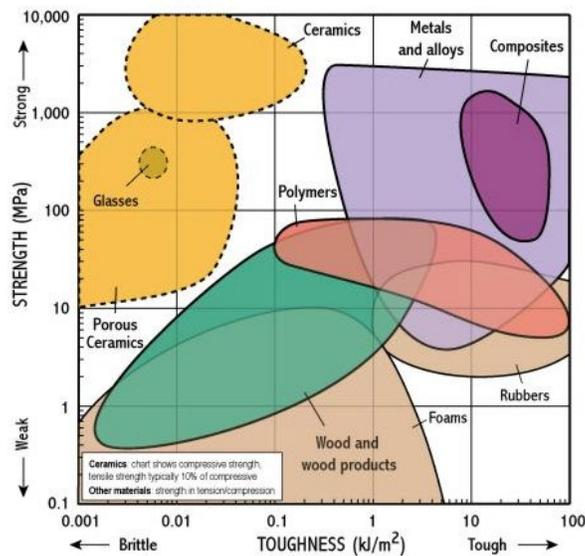

Figure 4 - Fracture Toughness of Materials
- Figure 4 shows material toughness from lowest to highest, left to right